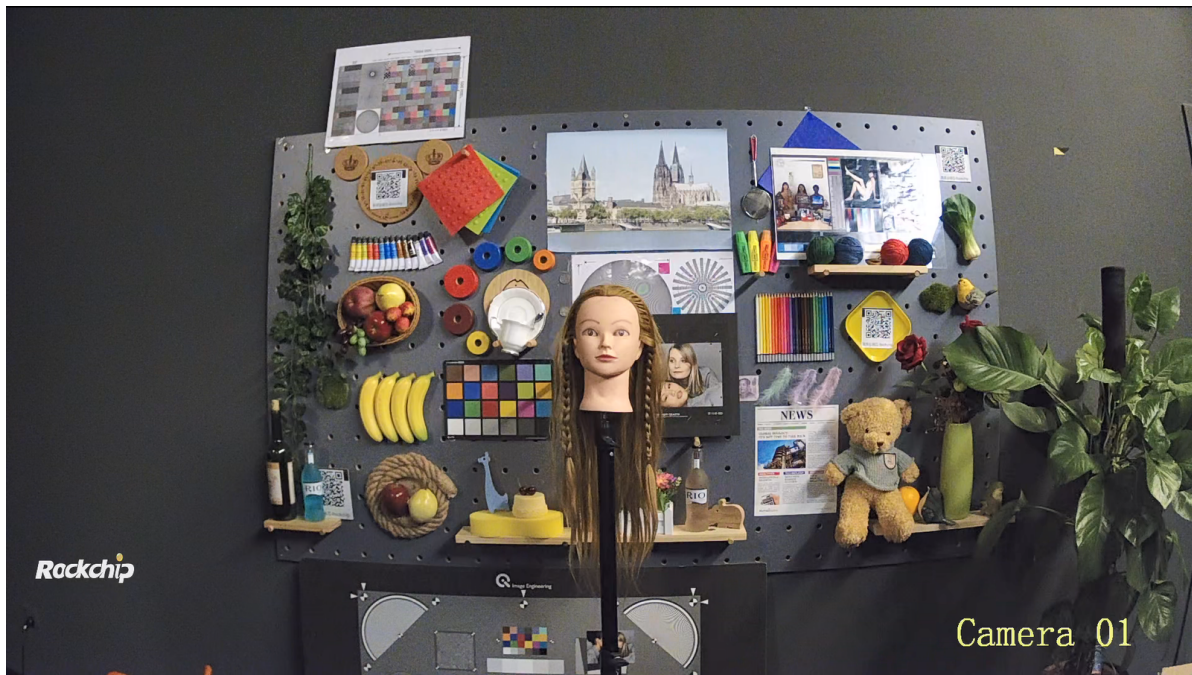

Figure 3-6 Schematic diagram of static scene
Step 3: On the basis of determining the AE weight and AE route, the next step is to adjust the target value of AE according to different exposures, for laboratory static scenes, the debugging standard of AE target value is that the highest area in the center of the picture is no obvious overexposure, as shown in Figure 3-6 static scene schematic diagram, the texture card in the middle, ceramic coffee cup can not be overexposed, corner dead leaf map and rose brightness is reasonable. The AE target value mainly involves SetPoint, DynamicSetpoint adjustment, and the selection of AE backlight mode.